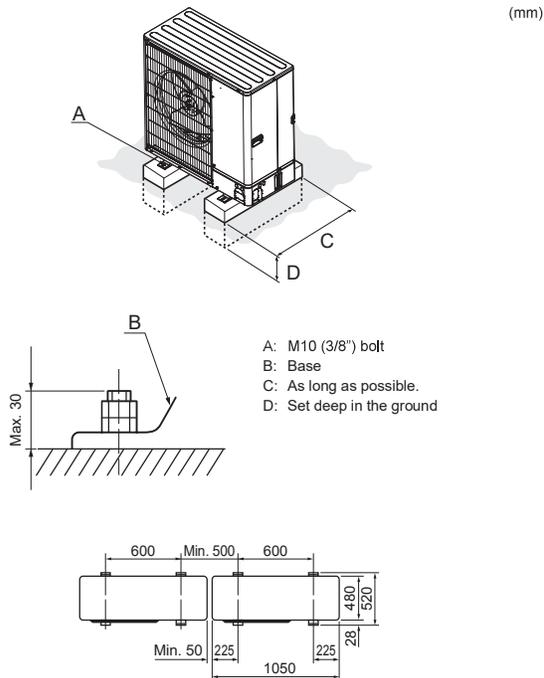

Fig. 4-1
- Install the unit on a rigid structure to prevent excessive operation sound or vibration. (Fig. 4-1)